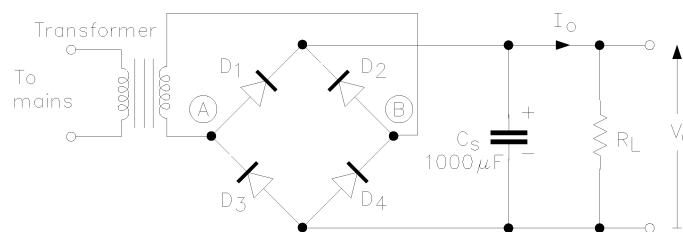

Figure 4: Bridge rectifier circuit.
The circuit shown in Figure 4 is almost universally used in power supply circuits, since it provides *full-wave* rectification, which utilises *both* halves of the *ac* waveform cycle. This reduces the size of smoothing capacitor required to provide a given, maximum ripple voltage at the rated load current.
- (7) Construct the circuit of Figure 4. For a range of values of I_o from 0 to 80 mA, plot graphs of
(8) Add a plot of the theoretical value of V_{pp} , given by simple theory² as